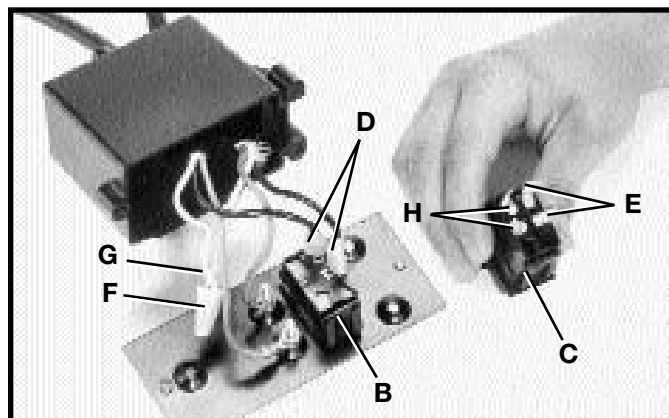

Fig. 31
5. The 120 Volt, single pole, on/off switch (B) Fig. 31, must be replaced with a 240 Volt, double pole, on/off switch (C), available from Delta as an ACCESSORY. The two leads (D) that are connected to the single pole switch (B) must be connected to the two terminals (E) on the double pole switch (C). Remove wire nut (F) and fasten two 1/4" disconnect terminals (available from an electrical supply house) to the two wires (G). Connect the two wires (G) to the two terminals (H) on the double pole switch (C).